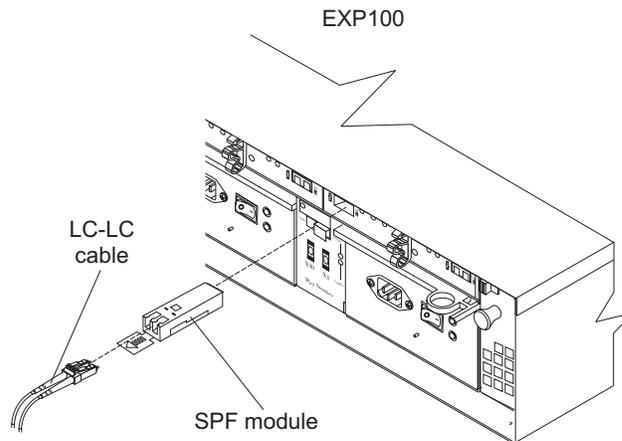

Figure 35. Installing an SFP module and connecting an LC-LC cable to the EXP100
3. Install an SFP module in the SFP port on the back of the EXP100; then, connect the other end of the LC-LC cable into the SFP module, as shown in Figure 35.